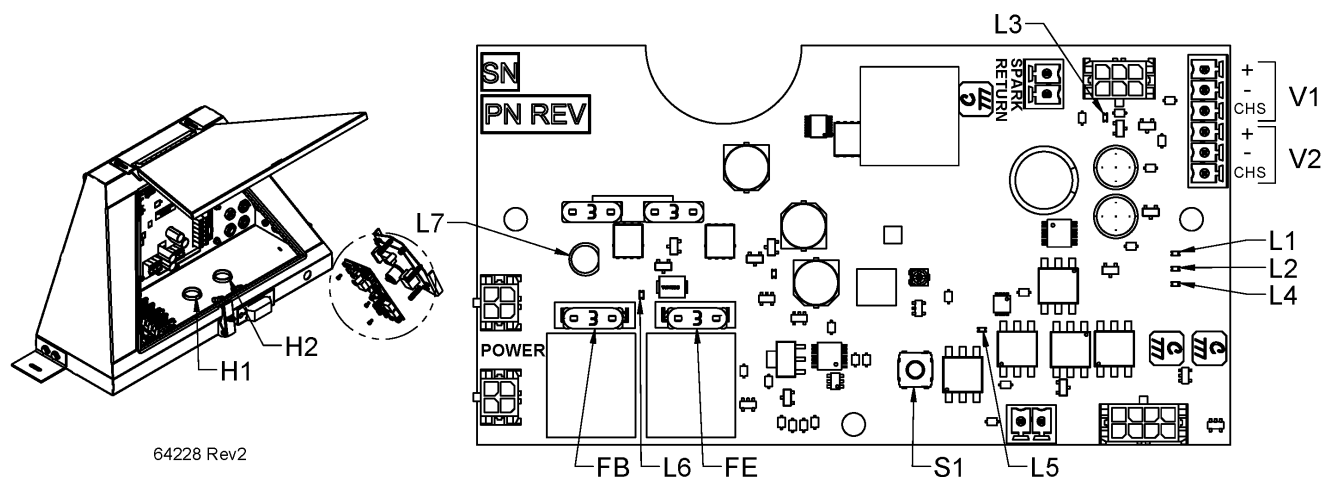

Figure 3 SI Controller Interface
Bring the customer load wires through the provided hole (H1 in Figure 3) nearest to the terminal block in the bottom of the Electrical Assembly using appropriate cable connectors for the wire or cable being used. Allow enough wire to connect to the terminal block TB-1, terminals 3(+) and 4(-). Grounding and bonding connections may be made to TB-1, terminal 5. Refer to Appendix D, Figure 12.
4. Opening the manual shut-off valve causes the Spark Ignition (SI) module to spark and the pilot solenoid valve to open as indicated by LED L1 on the SI Controller module, see Figure 3.